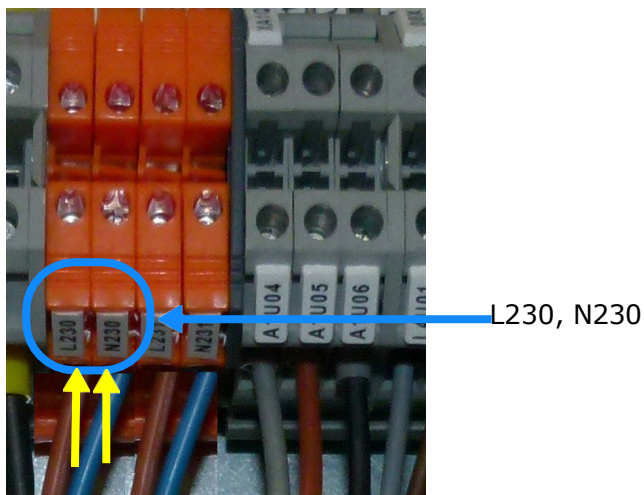

Figure 1-12: 230v power supply
1. Connect the two 230v power supply wires to the terminal block, Figure 1-12.